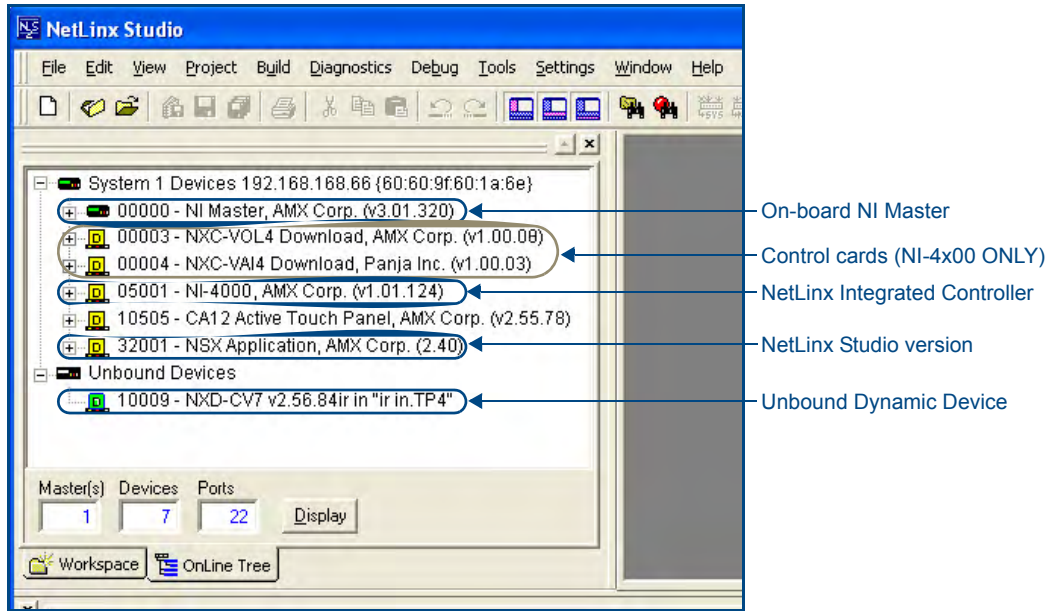

FIG. 5 Sample NetLinX Workspace window (showing OnLine Tree tab)
3. After the Communication Verification dialog indicates active communication between the PC and the Master, verify the NetLinx Master (**00000 NI Master**) appears within the **OnLine Tree** tab of the Workspace window (FIG. 5).